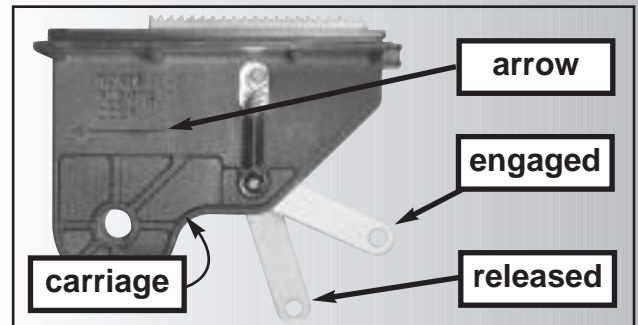

Fig. 1-5
- Place emergency release lever in released position. **Fig. 1-5.**
- Make sure arrow on side of carriage (**Fig. 1-5**) is pointing away from power head. (Emergency release lever will be facing power head.)